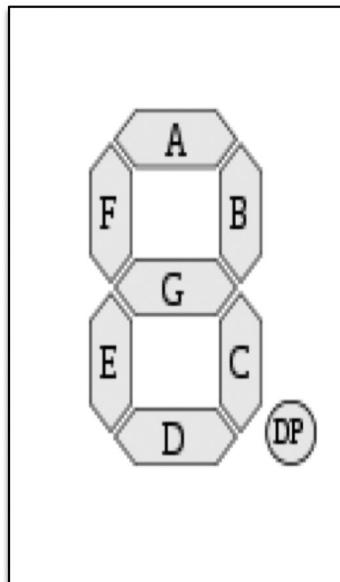

Figure 5-1 Seven-segment display.
Figure 5-1 shows how the segments of a seven-segment display are organized. Each segment is given a letter A–G with an additional connection to the decimal point (DP).
The `always` block synchronizes on the CLK and contains a new construct called a *case statement*. The case statement is a more concise way of writing a whole load of if commands that all have the same value as a condition. Here input D is the value of interest to the case statement. If D is 0, then the output segments (SEG) are set to the bit pattern 00000011. A zero indicates that the segment should be lit. Thus, referring to Figure 5-1, this says that segments a, b, c, d, e, and f should all be lit, leaving just g (in the middle) and the decimal place unlit. Each value of D has its own bit pattern.